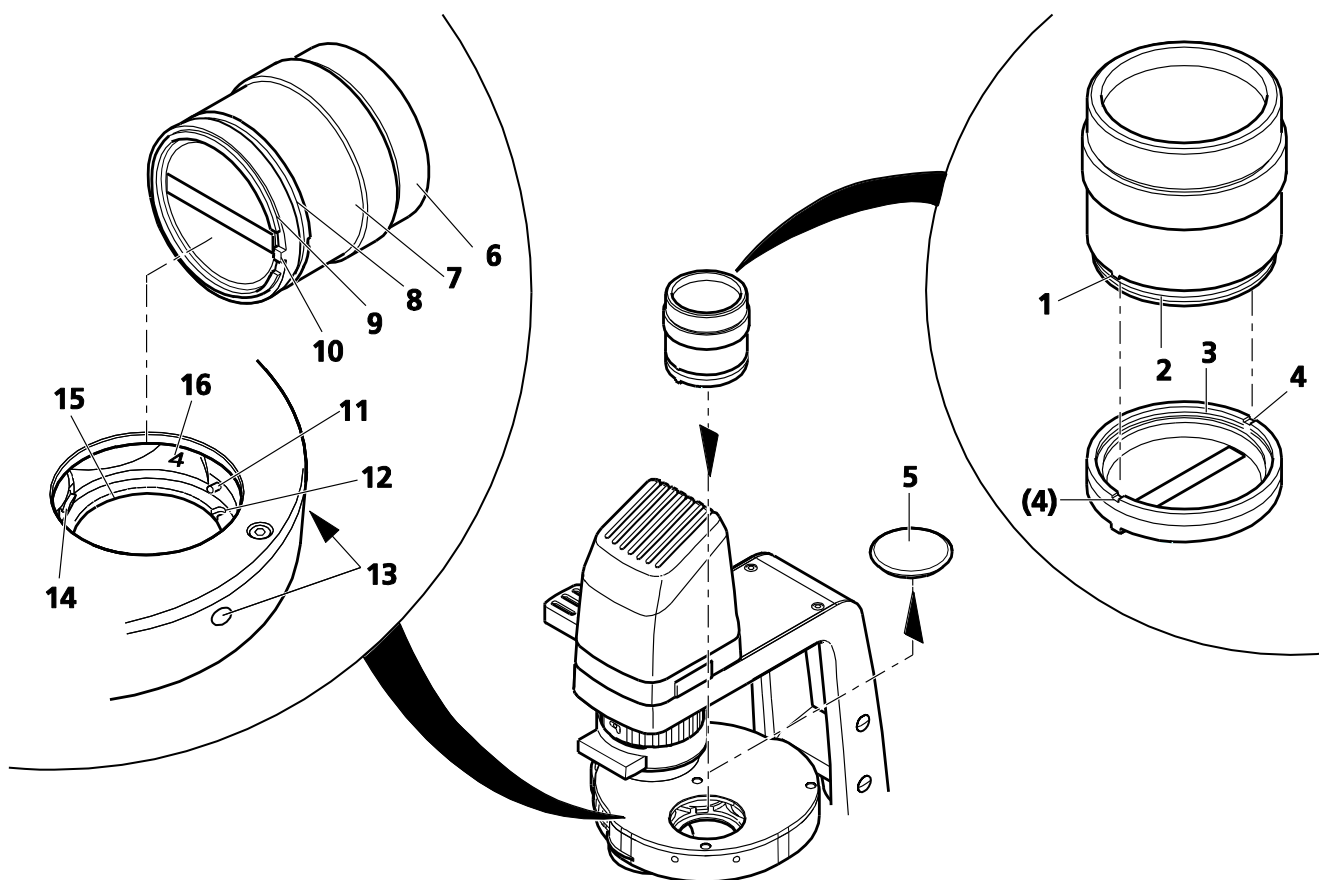

Fig. 3-25 Installing Diaphragms in the Modulator Disk of the Condenser
- Remove the sealing cap (Fig. 3-25/5) from the mounting hole.
Each of the condenser positions on the modulator disk is marked with a number (Fig. 3-25/16).
- Screw the desired module (Ph, iHMC, PlasDIC or DIC, Fig. 3-25/3) onto the thread (Fig. 3-25/2) of the mounting tool.
- Lock the cams (Fig. 3-25/1) on the underside of the mounting tool into the recesses (Fig. 3-25/4) of the contrast module.
- Insert the contrast module into the desired modulator disk position, using the gripping component (Fig. 3-25/6) of the mounting tool.
- The two centering screws (Fig. 3-25/11) may first have to be turned back slightly, as appropriate. These screws are accessible from the outside through holes (Fig. 3-25/13).
- During insertion, tilt the equipped mounting tool and push the chamfer (Fig. 3-25/8) of the contrast module mount and the aluminum-colored pressure piece (Fig. 3-25/14). At the same time (in the case of DIC or PlasDIC) coarsely align the cam (Fig. 3-25/10) and the recess (Fig. 3-25/12).
The slit diaphragm and the DIC prism are automatically centered via the hole (Fig. 3-25/15) and the shoulder (Fig. 3-25/9).
- For the DIC prism and the PlasDIC diaphragm, rotate the alignment unit (Fig. 3-25/7) of the mounting tool to allow the cam (Fig. 3-25/10) to engage into the recess (Fig. 3-25/12).
- Hold the alignment unit (Fig. 3-25/7) and turn the mounting tool (Fig. 3-25/6) out of the contrast module.